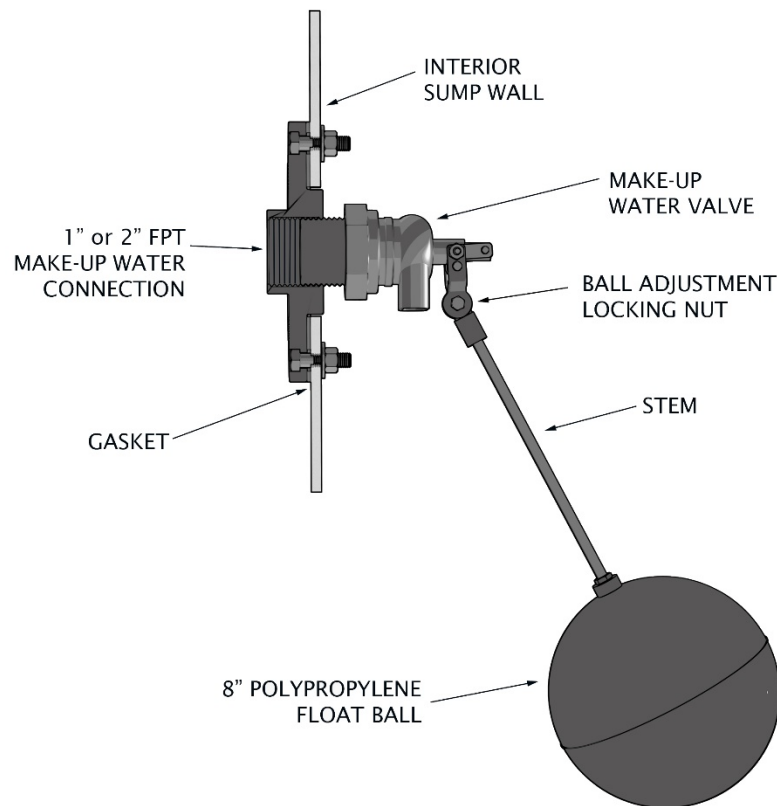

Figure 44 – Mechanical Float Valve
Use the following procedure to set the mechanical float valve. Refer to Figures 44 and 45.
3. Loosen the locking nut on the adjustment bolt for the Ball Stem specified in Figure 44, then loosen the bolt itself. Do not remove the bolt.